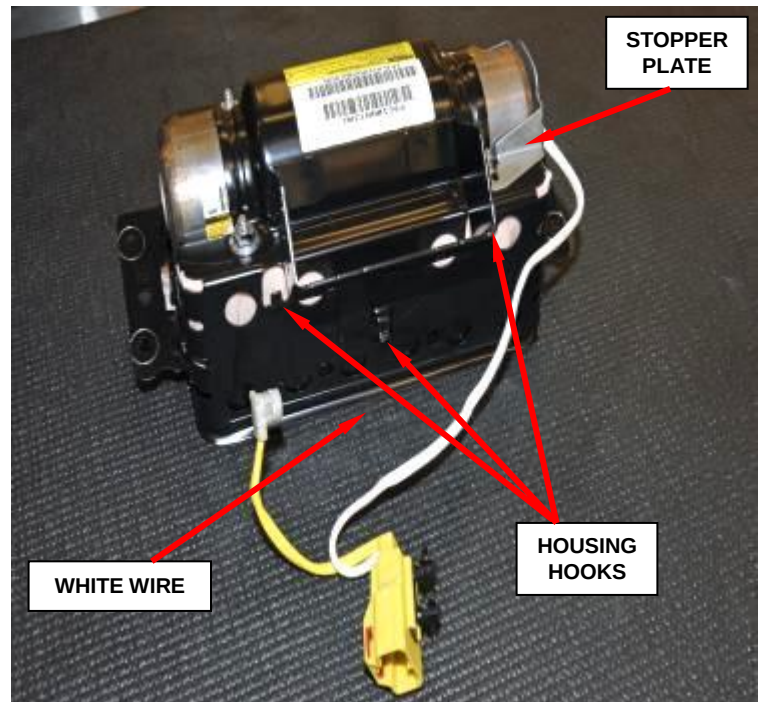

Figure 95 – White Wire Harness
- d. Release the white wire from the three housing hooks (Figure 95).
- f. Remove and save stopper plate from housing (Figures 95 and 96).